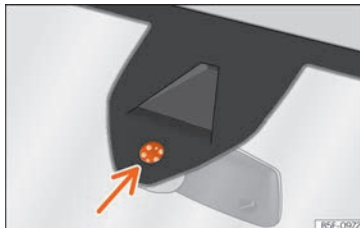

Fig. 100 Rain sensor sensitive surface
Possible causes of faults and mistaken readings on the sensitive surface » **Fig. 100** of the rain sensor include:
- Clean the sensitive surface of the rain sensor regularly and check the blades for damage »» Fig. 100 (arrow).